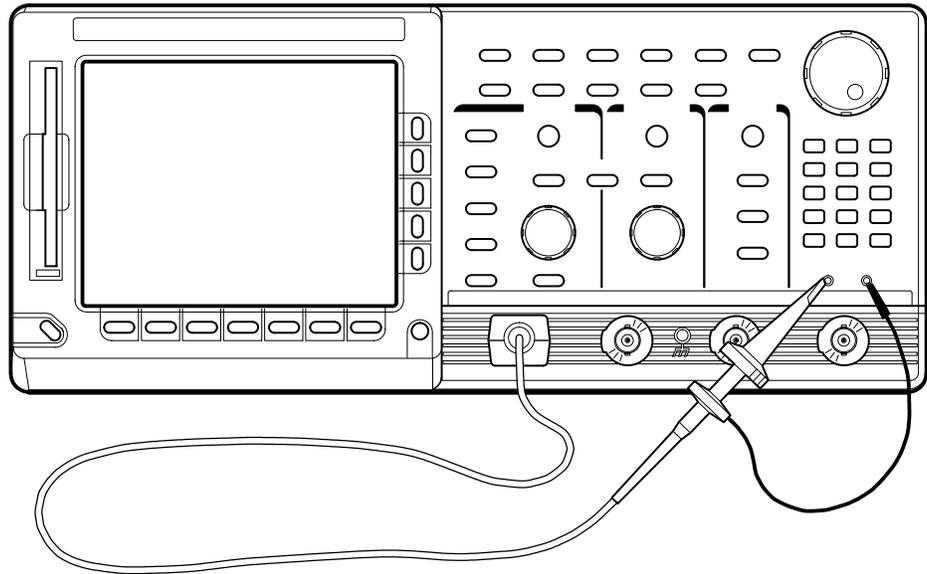

Figure 5–2: Hookup for probe compensation
- a. Locate the two small access holes on the right side of the oscilloscope cabinet near the front. (See Figure 5–1.)
- a. *Hook up test-signal source:* Install the optional-accessory probe to **CH 1**. Connect the probe tip to **PROBE COMPENSATION SIGNAL** on the front panel; connect the probe ground to **PROBE COMPENSATION GND** (See Figure 5–2).
- b. Using the probe compensation tool, adjust the probe for best square wave compensation (flat as possible across its top) (See Figures 5–3 and 5–4).
**1. Install the test hookup and preset the oscilloscope controls:****a. Expose the Inner Probe Tip:** Follow the instructions in Figure 5–5.**Figure 5–5: Exposing the Inner Probe Tip****b. Hook up test-signal source:**
- Connect the output of a high-frequency sine wave generator, through its leveling head, to a female-to-female adapter. See Figure 5–6.